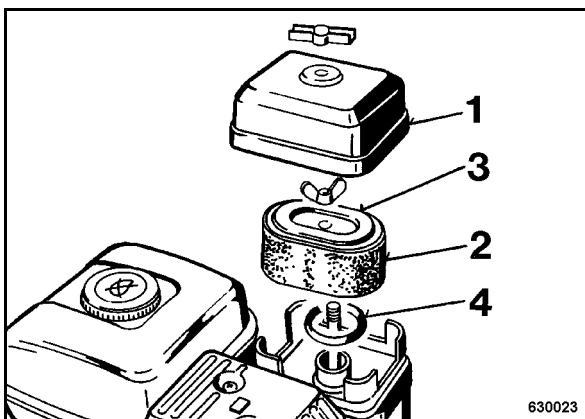

Fig. 68
- Unscrew the wing nut (1) (Fig. 68) and take off the housing cover.